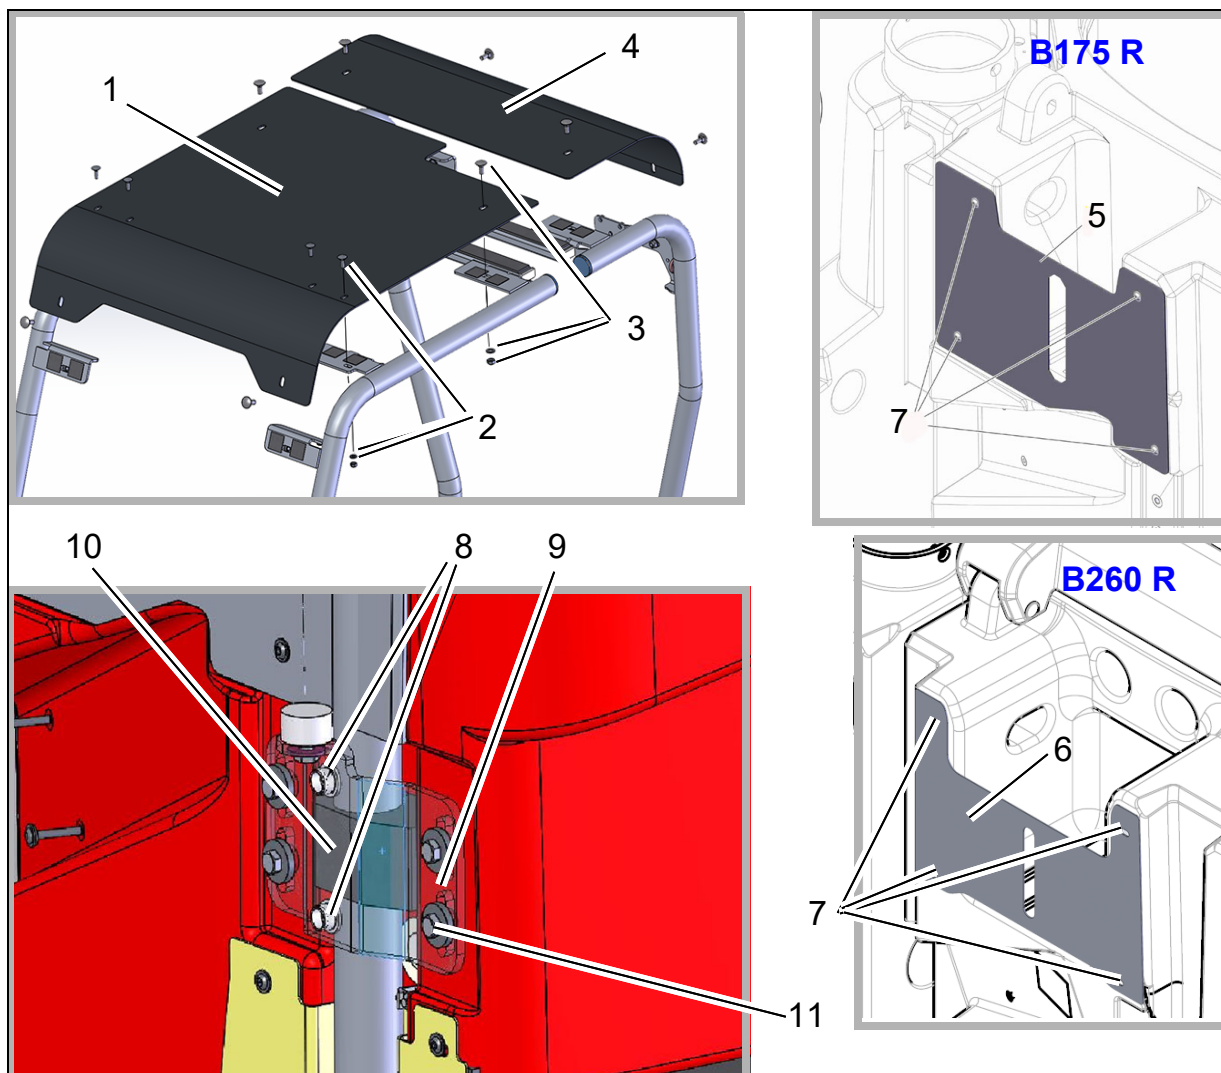

Fig. 6
1. Attach the front roof (Fig. 6/1) to the two front bars with four M6x20 flat round screws, washers, M6 nuts (Fig. 6/2) and four M8x20 flat round screws, washers and M8 nuts (Fig. 6/3).
2. Attach the rear roof (Fig. 6/4) with four M8x20 flat round screws, washers and M8 nuts to the two rear bars.
Fit cover plate (Fig. 6/5) respectively (Fig. 6/6) to the hopper using the existing M6x10 flanged button head bolts (Fig. 6/7).
1. Insert sealing plugs F 12 (Fig. 6/8) into the holes of the seat bearing (Fig. 6/9).
2. Position clamping piece (Fig. 6/10) at left rear bar so that is located between the two sealing plugs.
4. Tighten screws (Fig. 6/11) with tightening torque of 15 Nm.